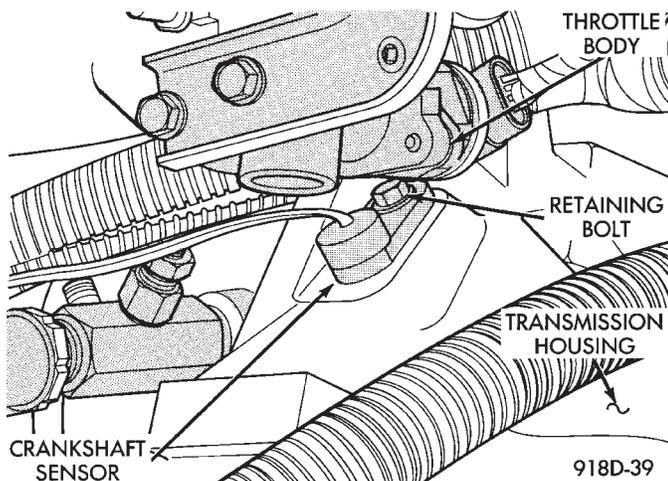

Fig. 8 Crankshaft Sensor Service—Turbo III Engine
(1) Remove throttle body.
(2) Remove inter-cooler to turbo-charger air hose.
(3) Disconnect crank timing sensor pick-up lead at wiring harness connector (Fig. 8).